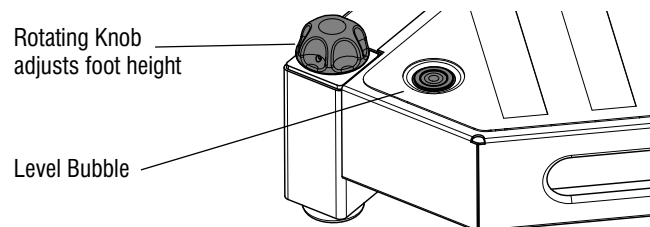

Figure 3-8. Detail view of level bubble
The base of the FS80 machine consists of two fixed wheels and two adjustable feet, for leveling and stabilizing the base within 2 degrees of level from front and back only. Prior to operation the adjustable feet are to be engaged to a point where the base is level as seen on the level bubble (Figure 3-8.).
4. Turn the adjustable feet until the level bubble is centred (see Figure 3-8.)